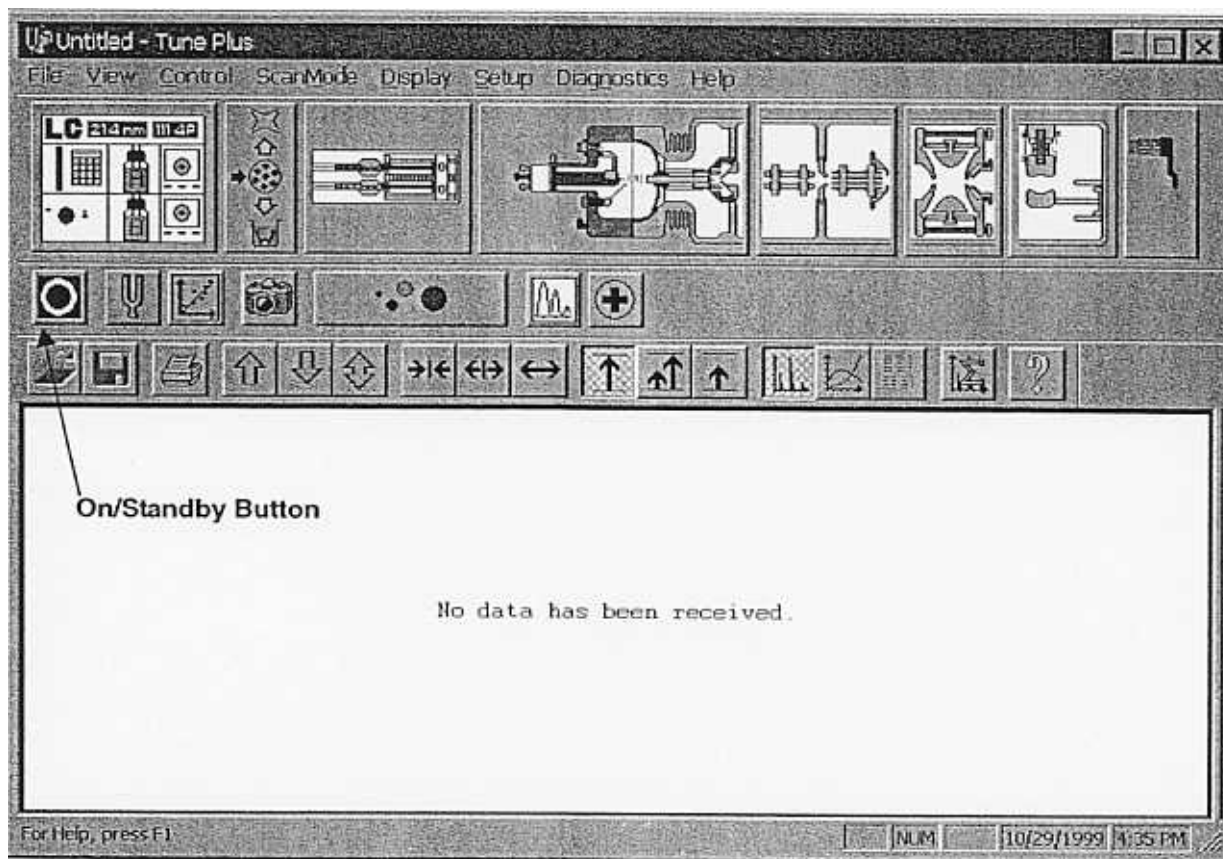

Figure 2-1. Tune Plus window, showing the MS detector in the Standby mode
To remove the APCI probe assembly, proceed as follows. See Figure 2-1 for the location of the components of the APCI probe assembly.
- d. Click on the Tune Plus button to display the window. See Figure 2-1